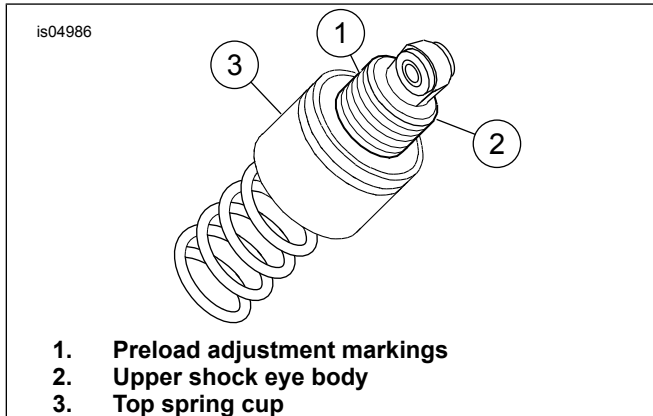

Figure 2. Rear Shock PreLoad Adjustment
1. See Figure 2. Use adjustment markings (1) on upper shock eye body (2) as adjustment guide.
2. Adjust shock preload by turning the top spring cup (3) clockwise (as viewed from top of shock) to increase preload (yielding a stiffer ride) or counter-clockwise to decrease preload (yielding a softer ride).